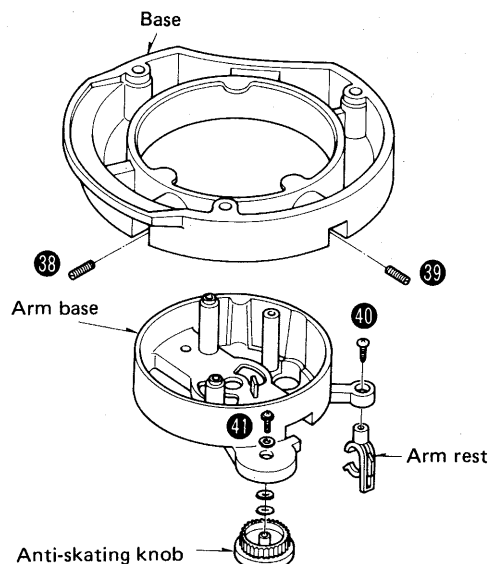

Fig. 12
3. Completely loosen the 2 tonearm base setscrew (Fig. 12 : 38 , 39) and then the tonearm base can be removed.
2. Remove the tonearm rest setscrew (Fig. 12: 40), and then the tonearm rest can be removed.
3. Remove the anti skating knob setscrew (Fig. 12: 41), and then the antiskating knob can be removed.